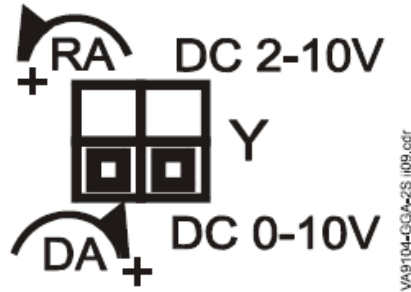

Figure 14: VA9104-GGA Factory Switch Setting
For Reverse Acting (RA) operation, a minimum control signal drives the actuator to the full CW position and a maximum signal drives the actuator to the full CCW position. To change the factory settings, remove the actuator cover and adjust the switches on the circuit board as shown in Figure 14.